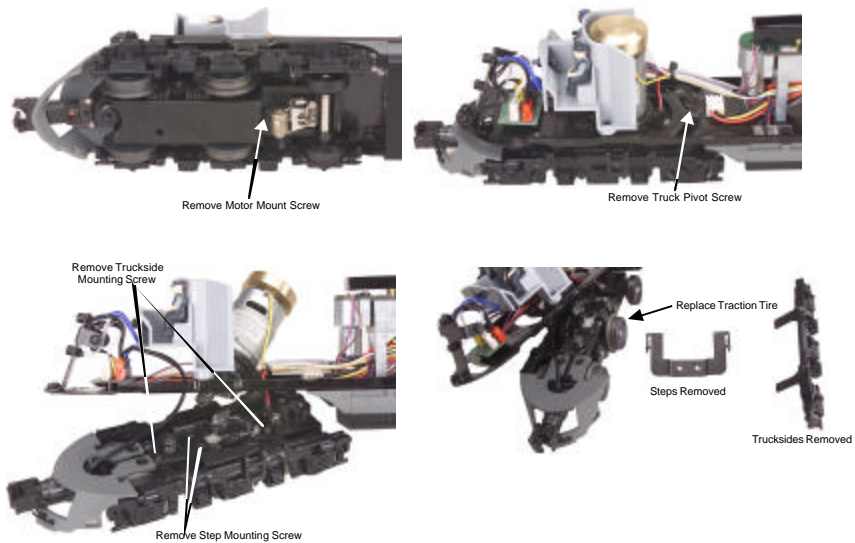

Figure 10. Changing the traction tires on the front truck
2. Remove the truck from the chassis by removing the mounting screws shown in Fig. 10.
3. Remove the ladders by removing the screws shown in Fig 10.
4. Remove the truck sides by removing the screws shown in Fig 10